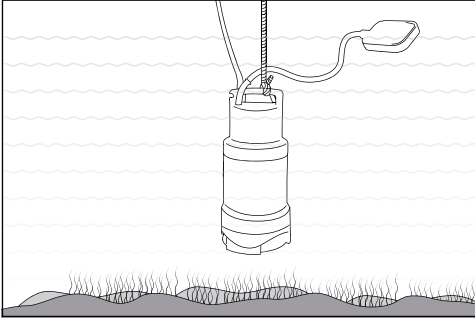

Fig. 3
6.2 Installation and Placement (Fig.3)